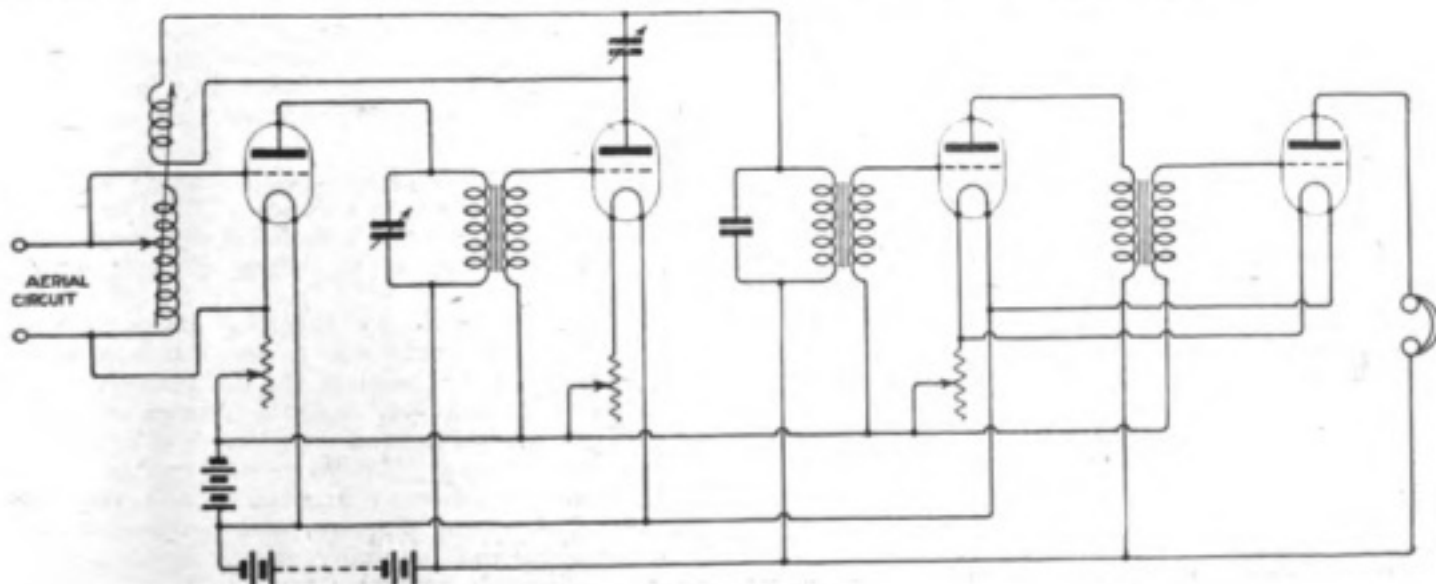

Fig. 1.
Your circuit is quite in order, excepting that it is not necessary to connect a variable condenser across the primary of the intervalve transformer, and this condenser can be made good use of by connecting it across the ends of the reaction coil marked "S" in your circuit diagram. A small fixed condenser should be connected across the I.P. and O.P., having a value between 0.001 and 0.002 mfd., and may consist of 15 plates interleaved with mica 0.002" in thickness, and having an overlap of 1" by 1/4". Seven will project at one end of the condenser and eight at the other. The tuning range of the coils would seem to be sufficient when connected to your two-wire aerial to tune to 1,070 metres, the wavelength of PCGG. The addition of a high frequency amplifying valve and another note magnifier would assure you of good reception from this station, particularly as we now understand that its power has been increased. A suitable circuit is given in Fig. 1. The rectifier valve should
"C.B." (Ipswich) is desirous of adding a single valve amplifying set to that shown in Fig. 1, and asks whether H.F. or L.F. would be recommended, and for a diagram showing how the amplifier should be connected.
(1) We cannot say from the type of sketch you send. For instance, your potentiometer appears to have five terminals, but there is nothing to show us the relation each of these terminals bears to the internal wiring. (2) The telephones are unsuitable for use except with a telephone transformer. The figures give the resistance of the windings, which in this case are low. (3) No signals are likely without change as in 2, but we cannot say whether results will then be obtained. (4) Arrangement as in Fig. 1, page 404, June 24th issue, would give satisfactory results.